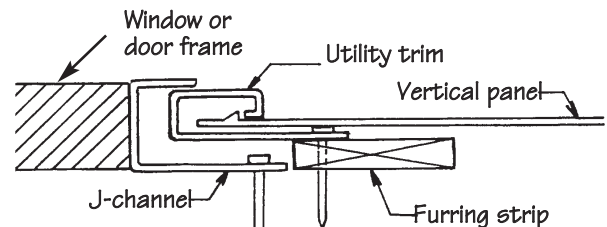

Figure 56.
- If the panel is cut on the flat surface, install utility trim, backed by furring, into the J-channel. The flat surface of the vertical siding should be snap lock punched and fitted into the utility trim (Fig. 56). The panel is further secured above and below the windows and above the door when the panel is fastened in place.